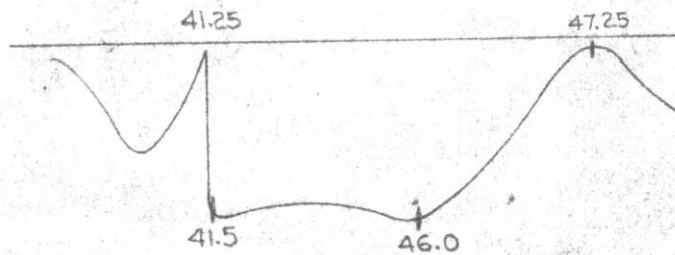

FIG. 2
- g. Tune T208 (bottom) and T207 (bottom) for response curve shown in Figure 2. Short grid of 4th picture IF stage if spurious response affects scope picture.